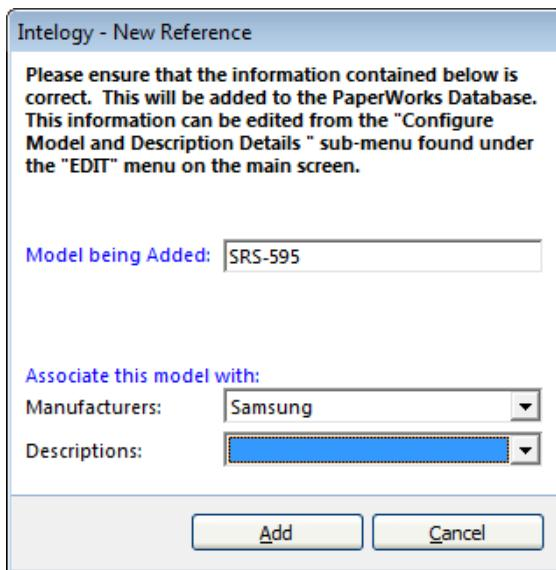

Figure 9.3 - New Reference - Model
1. Fom the list select the make or **enter** a new manufacturer in the actual drop down box. When adding a new Manufacturer, the ‘New Reference’ screen (similar to figure 9.3) is shown. Please ensure that the new manufacturer is not already entered in Intelogy before adding the new manufacturer.
- Description: the description of the unit. E.g.; 18" TFT Monitor. Select an existing description from the drop down list or enter a new description in. When adding a new description, the ‘New Reference’ screen (similar to figure 9.3) is displayed.